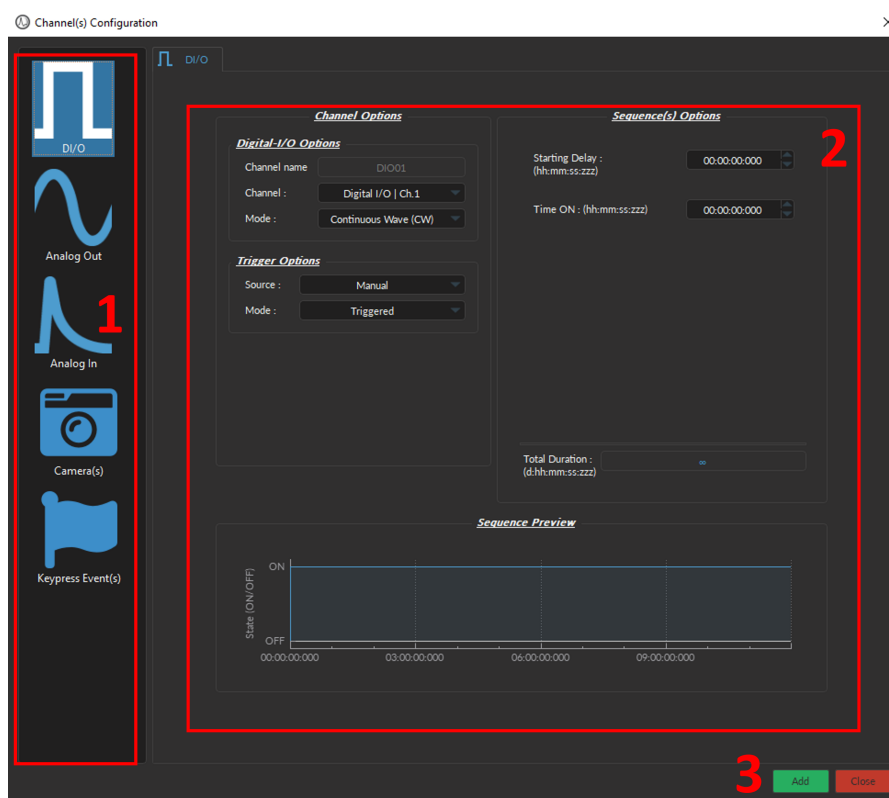

Figure 5.12: Channel(s) configuration window, Digital I/O input
To generate a new **Channel** using the **Channel(s) configuration** window (Fig. 5.12):
1. Select one of the available **Channel Type** icons from the left most column of the **Channel(s) Configuration** window (Fig. 5.12). Table 5.1 describes the use case of each type.
3. Select the **Add** button (Fig. 5.12) to generate the defined channel or to update an already configured channel, but does not automatically close the *Channel Configuration* window. This allows the user to conveniently set up all required channels one after the other.